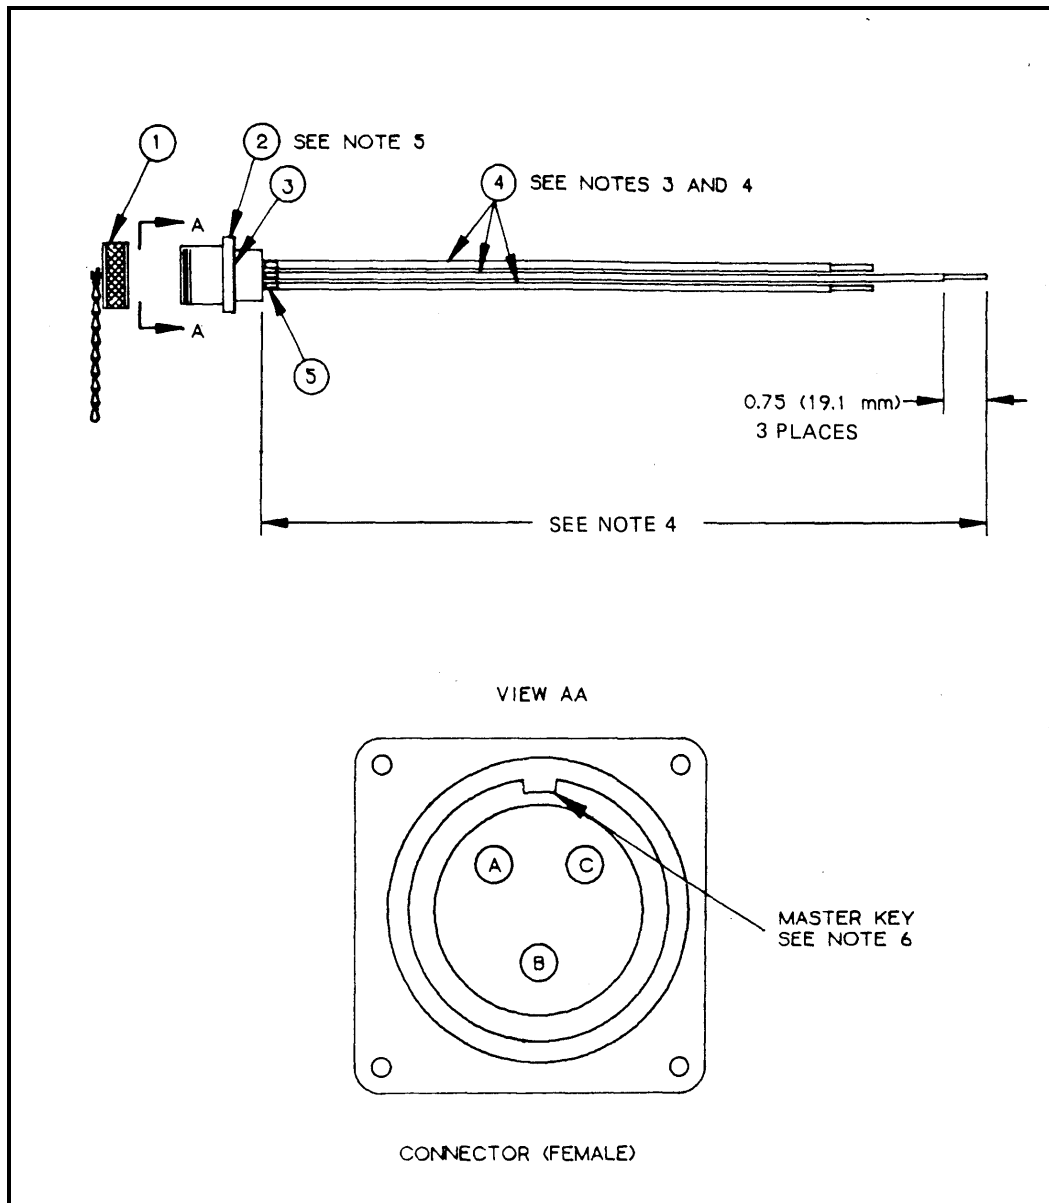

Figure F-33. M40/60 A/P (PDISE), 20-Amp, Output Connector Assemblies.
Component Legend for Figure F-33
c. Electrical connector (Figure F-33, Item 2) is furnished with the following: